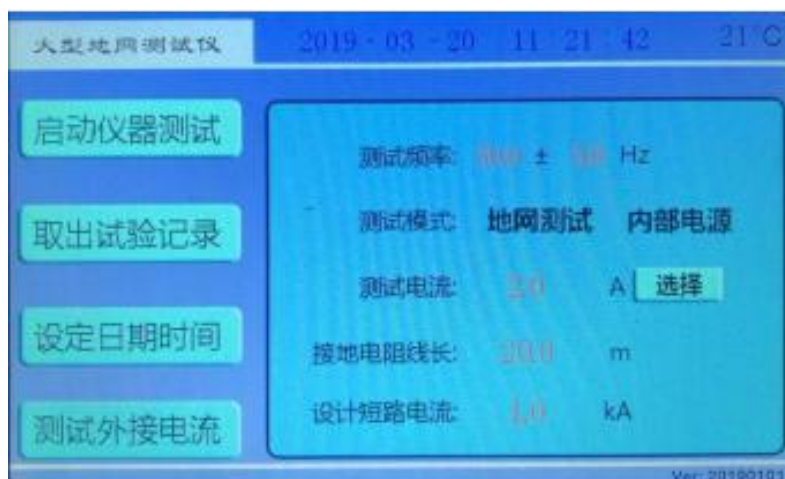
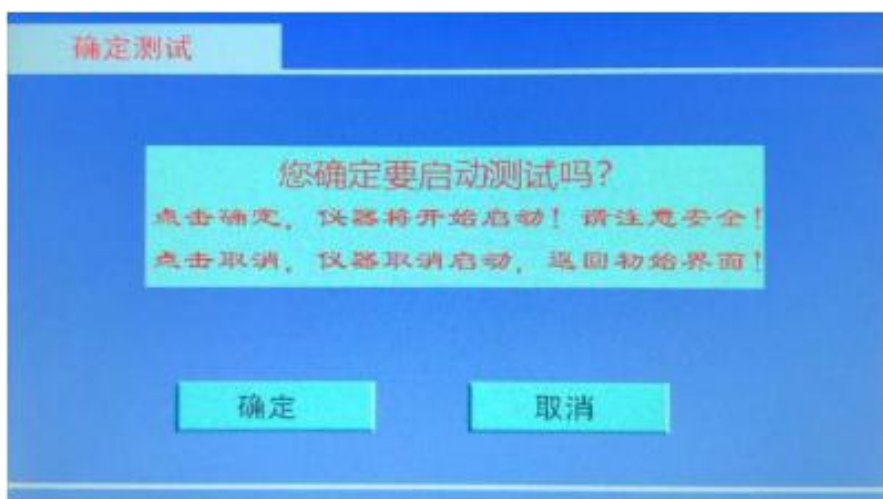

Figure 5 Boot interface
Figure 14 Test confirmation interface
1. Turn on the power switch and the computer will perform self-test. After a few seconds, the LCD screen displays the main menu in Chinese as shown in Figure 5, indicating that the self-test is successful.
7) Under the boot interface (Figure 5), the red numbers are modified. For items such as test frequency, you only need to use a touch screen pen or finger to click, and the numeric keyboard will pop up and then modify. (Picture 9)
In the boot interface (Figure 5), select the test mode for ground network test, and use a touch screen pen or finger to click
Click OK to start the up-current test. Please confirm that the test line has been connected. At this time, the ground network test interface will appear (Figure 11). Click Cancel, and the instrument will return to the startup interface (Figure 5).
Press exit at this time to return to the boot interface (Figure 5). Press print to print out the result.
In the boot interface (Figure 5), select the ground resistance test mode, (the line length is generally 20 meters) use the touch screen pen or finger to click to start the instrument test, the test confirmation interface appears (Figure 14):
Click OK to start the up-current test. Please confirm that the test wire has been connected. At this time, the grounding resistance test interface will appear (Figure 15). Click Cancel, and the instrument will return to the startup interface (Figure 5).